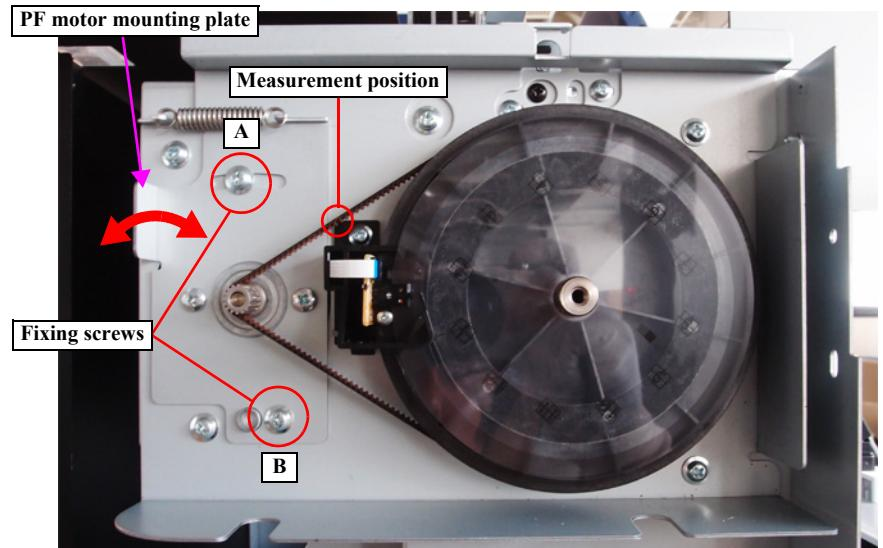

Figure 4-86. PF Belt Tension Check
9. Bring the microphone of the tensimeter close to the belt as shown in Figure 4-86.